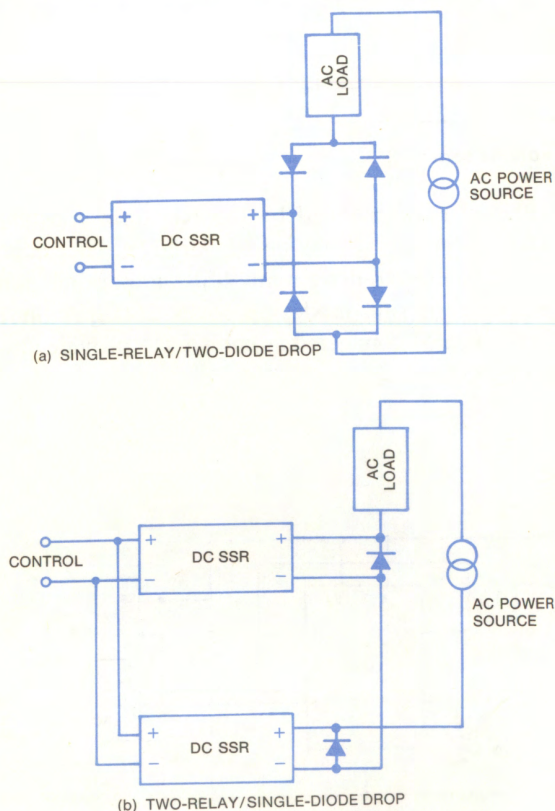

Fig. 2-22 Using DC SSR to switch AC loads in full-wave circuits.
2.6.8 Switching AC Loads With DC SSRs (Fig. 2-22)
The full-wave bridge circuit of Figure 2-22(a) requires only a single relay, but adds a two diode drop to that of the relay, which could be a problem in lower voltage AC circuits. The circuit of Figure 2-22(b) has only one added diode drop but requires the use of two relays.